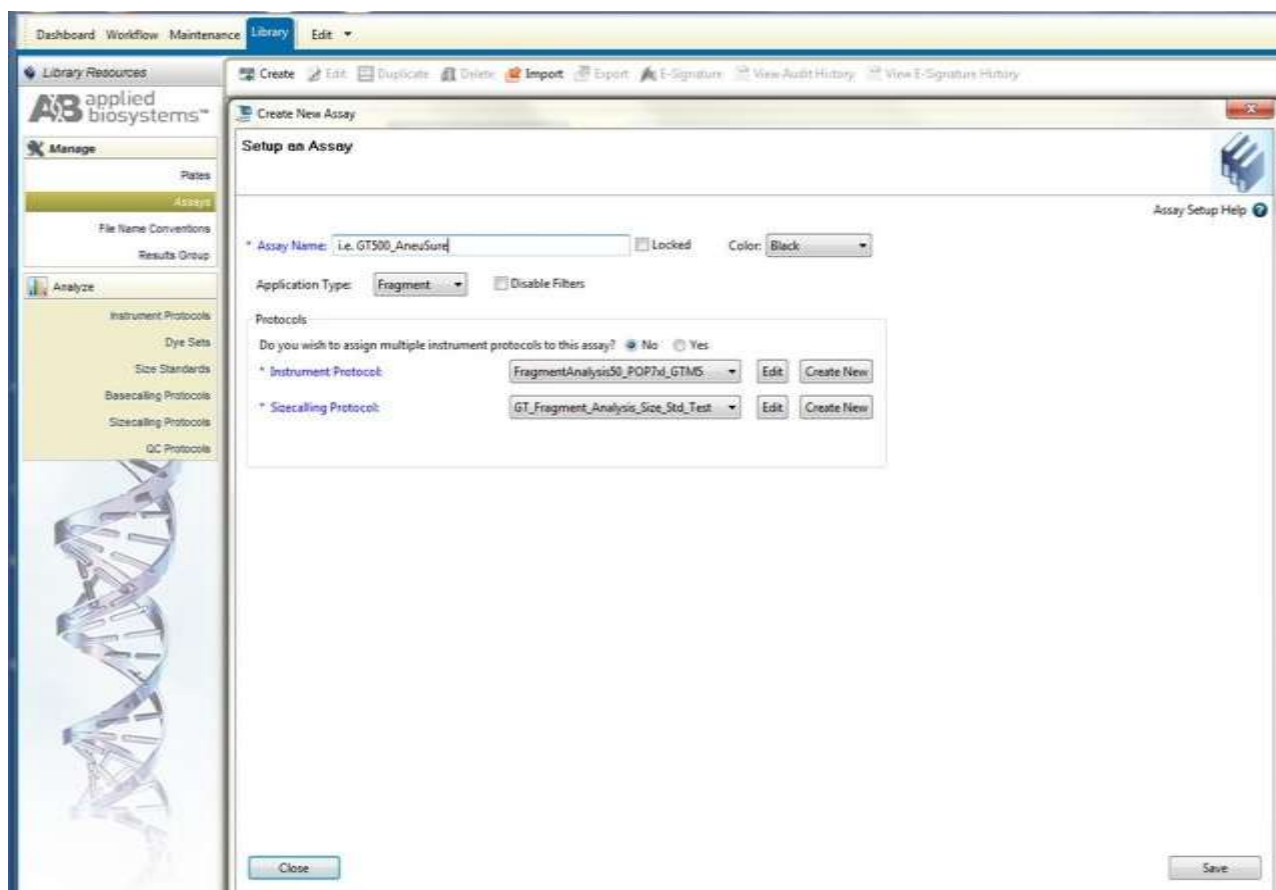

Figure 8. Screenshot for the “*Create New Assay*” window on Applied Biosystems 3500 Data Collection software
- c) Select “Create” (Figure 8)
- d) In the *Create New Assay* window, as shown in Figure 8, choose the *Instrument Protocol* created in Step 3.1.1 and the *QC Protocol* created in Step 3.1.3